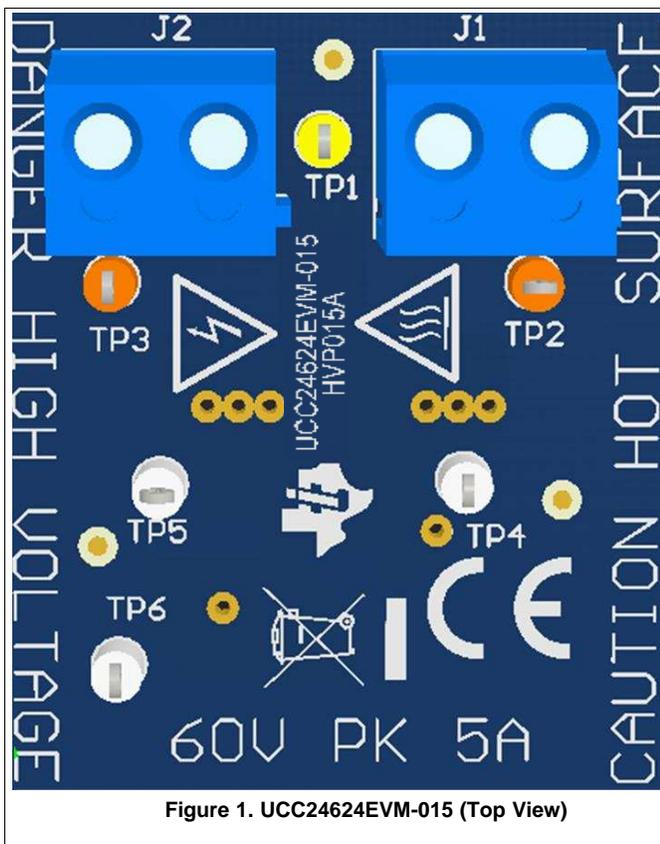

Figure 1. UCC24624EVM-015 (Top View)
UCC24624EVM-015 list of materials as shown in Figure 1.
• Changed Figure 1 .....	<a href="#">3</a>